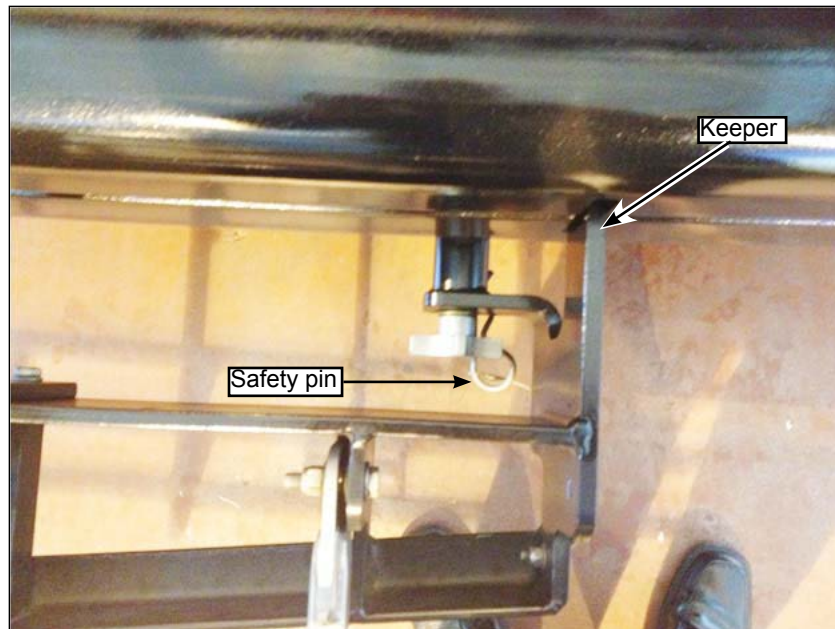

Figure 39 - Secure Mounting Bolts and Install Safety Pins
1.40. Secure the two mounting bolts and install the safety pins (see Figure 39).